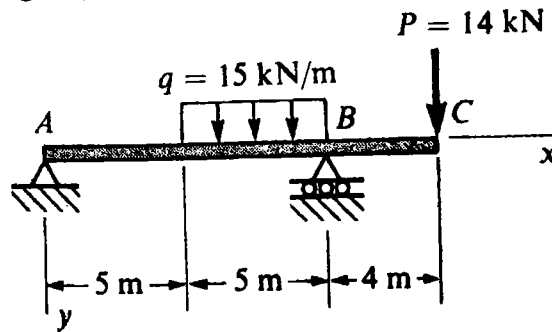

Figure 3
3. A beam  $ABC$  with simple supports at  $A$  and  $B$  and an overhang from  $B$  to  $C$  (Fig. 3) supports a uniform load  $q = 15 \text{ kN/m}$  over part of the span and a concentrated load  $P = 14 \text{ kN}$  at the free end. (a) Write the expression for the intensity  $q(x)$  of the equivalent distributed loads acting on the beam. (b) Find the deflection  $\delta_c$  at the end of the overhang. (25%)